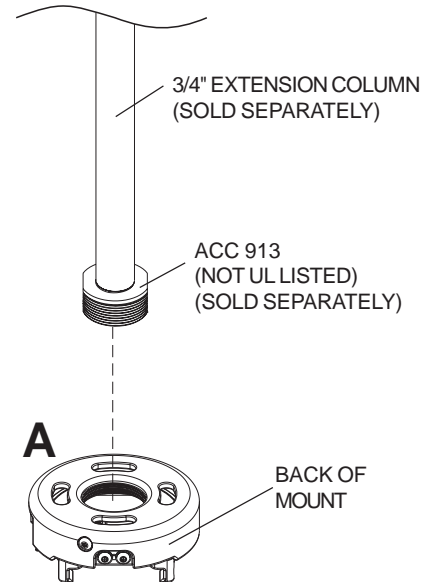
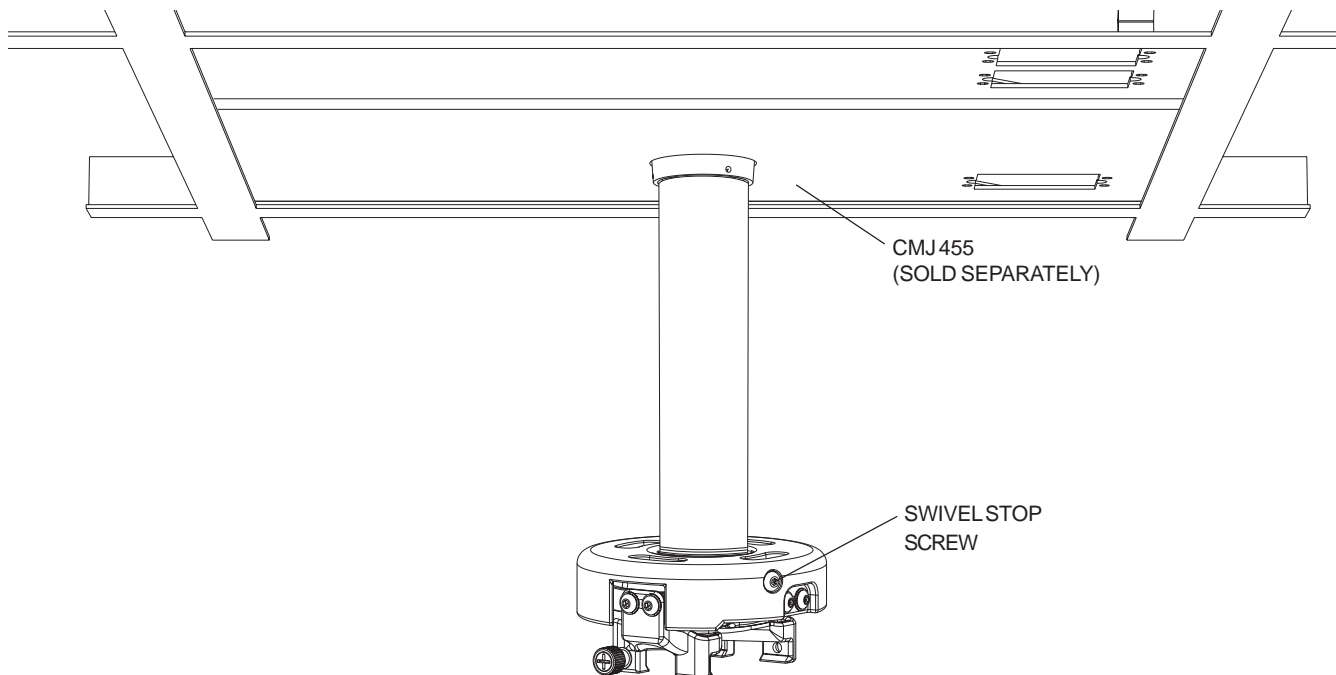

fig. 1.2
fig. 1.3
NOTE: For 3/4" extension columns, reducer ACC 913 will be required as shown in **figure 1.2**. Tighten swivel stop screw against extension column, flush mount tube or reducer using 4 mm security t-wrench (L) as shown in **figure 1.3**.